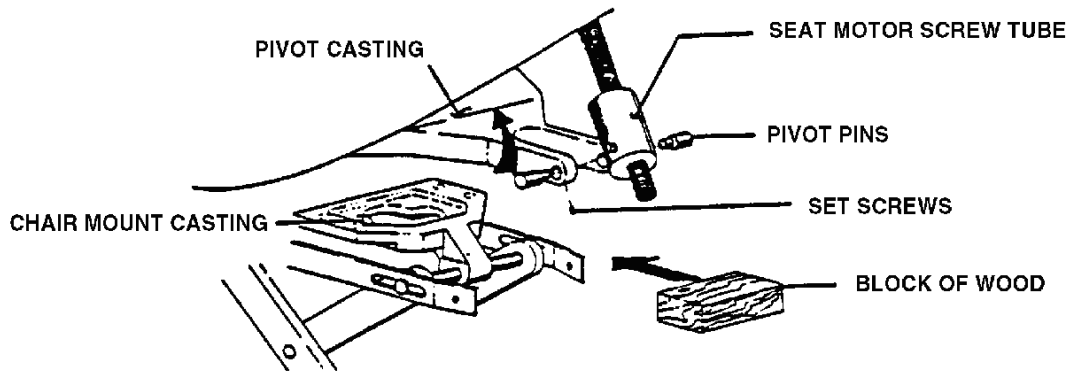

Figure 3-7. Wood block installation.
f. Raise the toe section of the chair and place a wood block between the pivot casting and the chair mount casting. See figure 3-7.